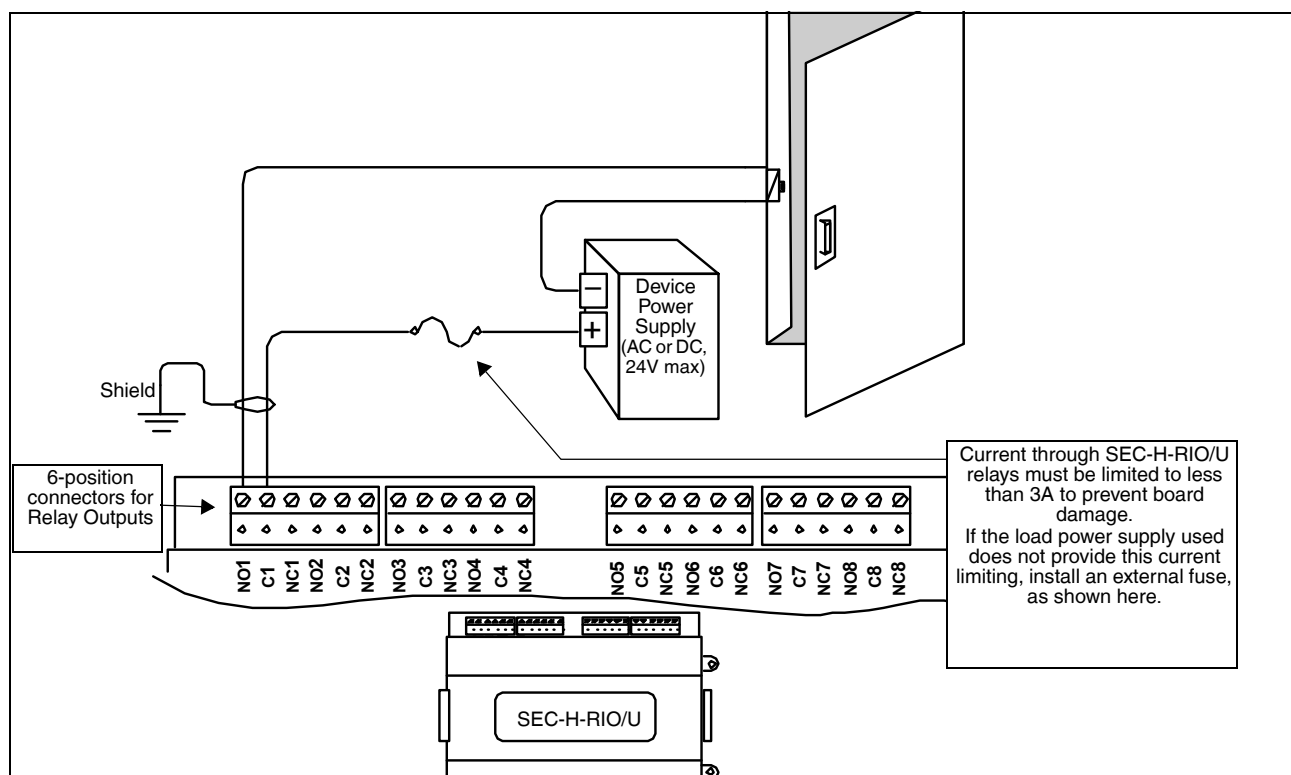

Fig. 6. Relay output wiring from SEC-H-RIO/U module to door strike.
The SEC-H-RIO/U module has eight (8) Form-C relay outputs, each rated to switch 24VAC/DC loads up to 3A. Output terminals are on four 6-position connectors on the top of the board (see Fig. 6). Output terminals are labeled from 1–8, with each having a NO $n$ , C $n$ , NC $n$  position—for example NO2, C2, NC2 for relay output 2.
Typical door strike wiring, in this case using relay output 1, is shown in Fig. 6.